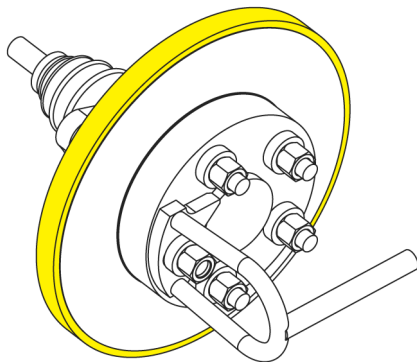

Fig. 65
6. Remove the rubber silencer from the brake rotor, Fig. 65.